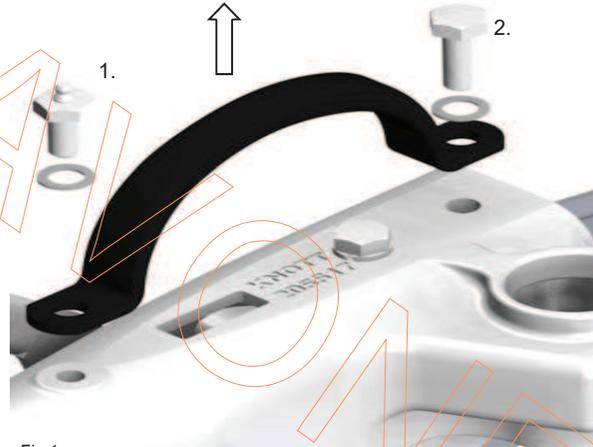

Fig.1
- a. For KFG20, KFG27, KFG30 couplings it will be necessary to remove the grab handle completely, remove bolts 1 & 2 (Fig.1), Retain all parts.